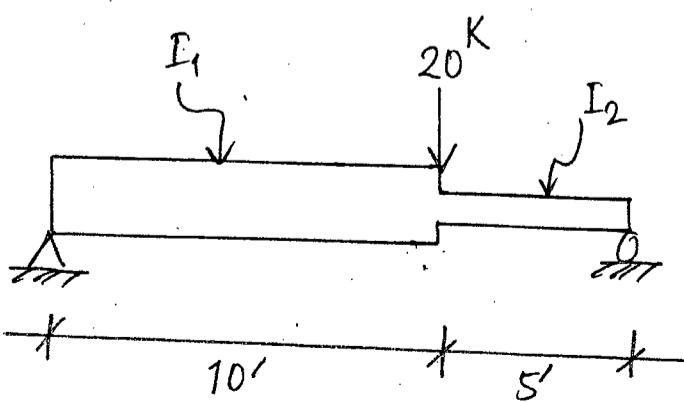

Figure 11
13. Find the deflection of the beam at the point of the applied load shown in Figure 11. Given  $I_1 = 400 \text{ in}^4$ ,  $I_2 = 300 \text{ in}^4$  and  $E = 29000 \text{ ksi}$ . (14)